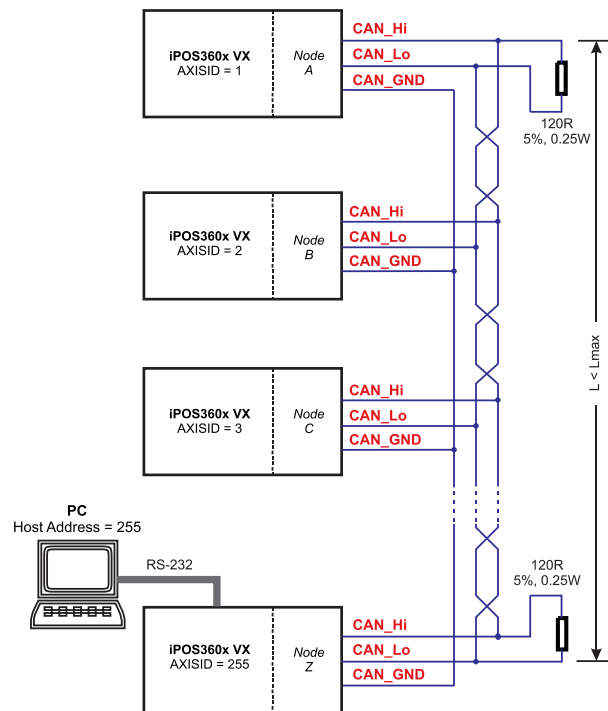

Figure 3.32. Multiple-Axis CAN network
1. The CAN network requires a 120-Ohm terminator. This is not included on the board. Figure 3.32 shows how to connect it on your network